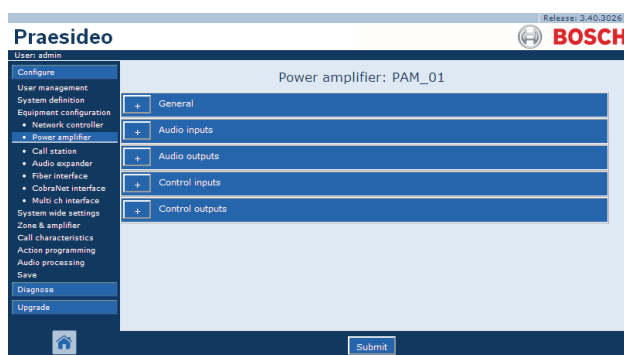

figure 44.11: Configure power amplifier, step 2
- 2 Click the name of the power amplifier that must be configured. A screen similar the one in figure 44.11 appears in the main frame of the web interface.